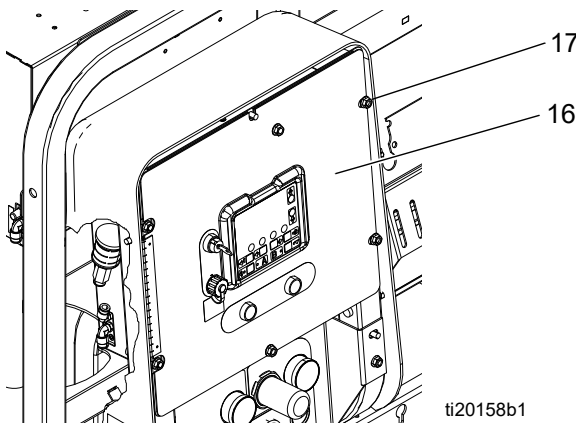

FIG. 3
3. Remove four nuts (21) and then remove front and rear shrouds (19, 20).
4. Remove four nuts (17); leave two nuts on left side of panel tight. Open front panel of control box (16). See FIG. 3.